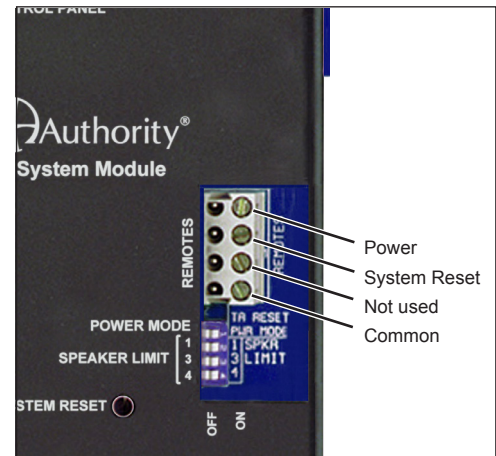
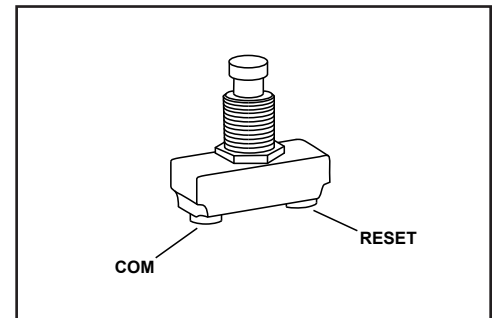

Figure 42. 980B Module.
Figure 43. SPST Switch.
- Connect a SPST switch (*Figure 43*) between the “Reset” and “COM” pins on the “Remotes” terminal block located on the 980 (*See Figure 42*).